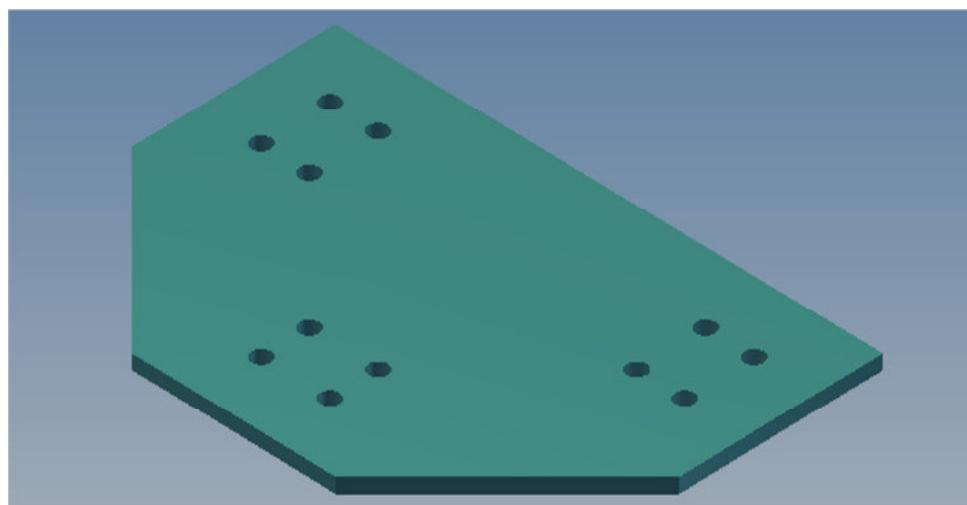
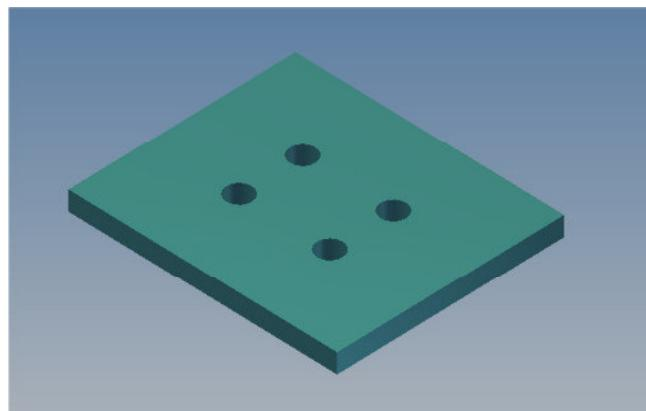

Fig. 4 T- connection
Fig. 5 Distance plate
- 3.2.4 Fixing of wall corners and T- joints by bolting with top wall corner joint (Fig. 4) resp. top T- Connecting joint (Fig. 5).